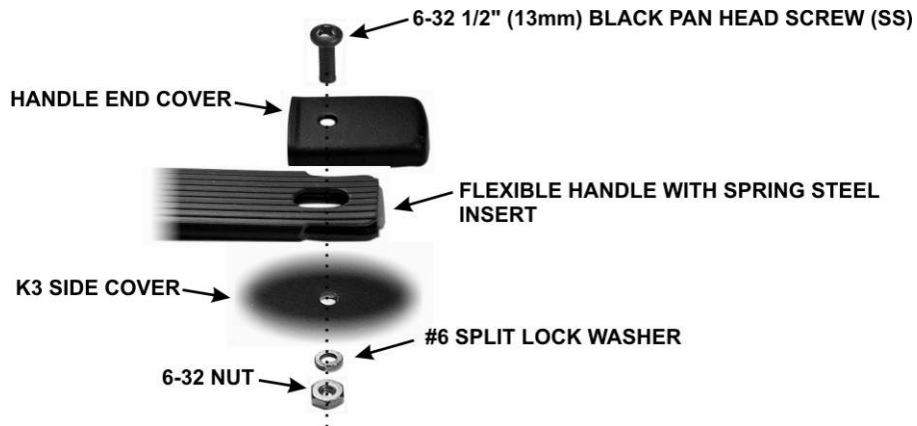

Figure 63. Installing Side Handle Mounting Hardware.
Mount an SO239 connector in the ANT1 position on the rear panel using two 4-40 1/4" (6.4 mm) black pan head screws (SS), two 4-40 internal tooth lock washers and two 4-40 nuts as shown in Figure 63. The flange of the SO239 connector is on the inside (unpainted side) of the rear panel.
□ Turn the chassis upside down and position the front panel assembly so the pins of P30 and P35 on the bottom of the RF board just begin to engage the connectors on the lower edge of the front panel assembly (see Figure 63). Do not fully mate them yet.
□ Attach the handle to the left side cover using the hardware shown in Figure 63 at each end. The ribbed side of the handle faces away from the panel. Tighten the screws enough to compress the lock washers, but do not tighten the screws so much that you deform the handle end cover. The handle should move easily to allow room for your fingers between the handle and cover for carrying, then lie flat against the cover when it is not in use.